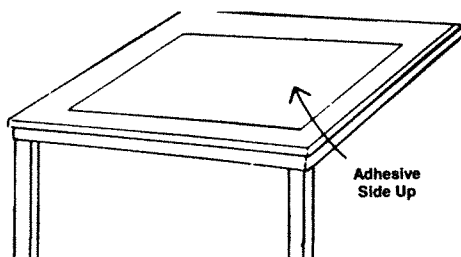

Figure 6
B. Drop material to be premasked into position face down on tape (Figure 6).